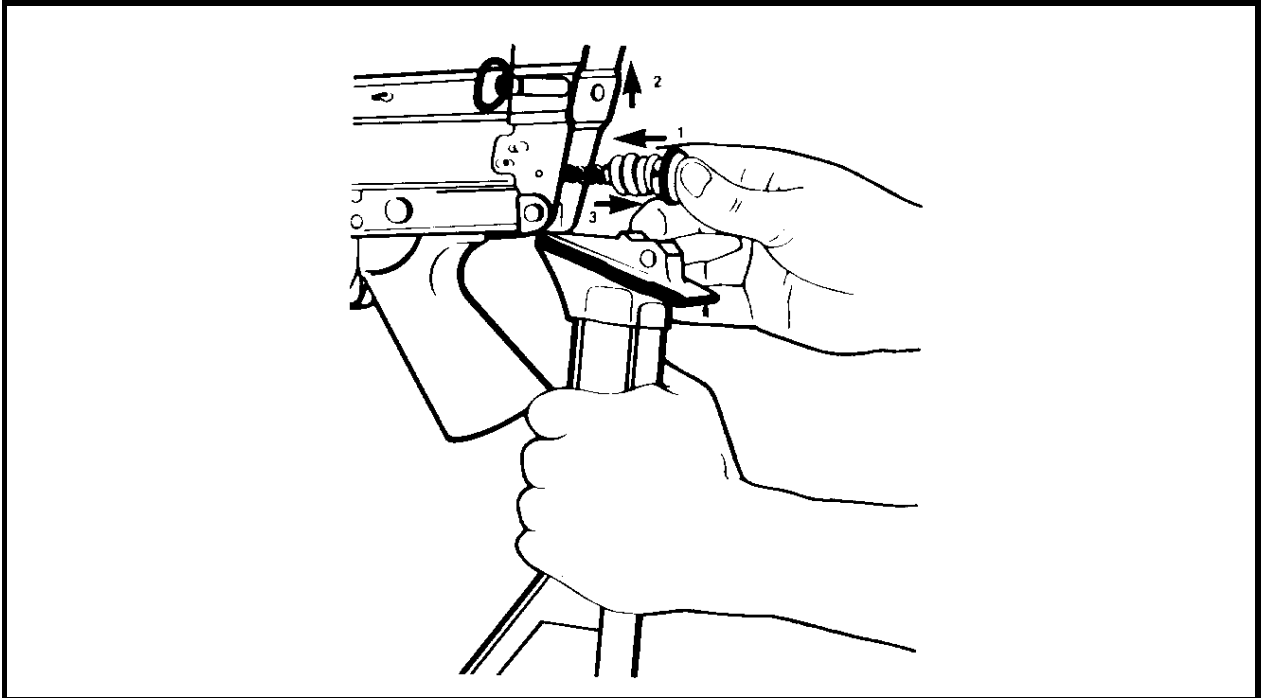
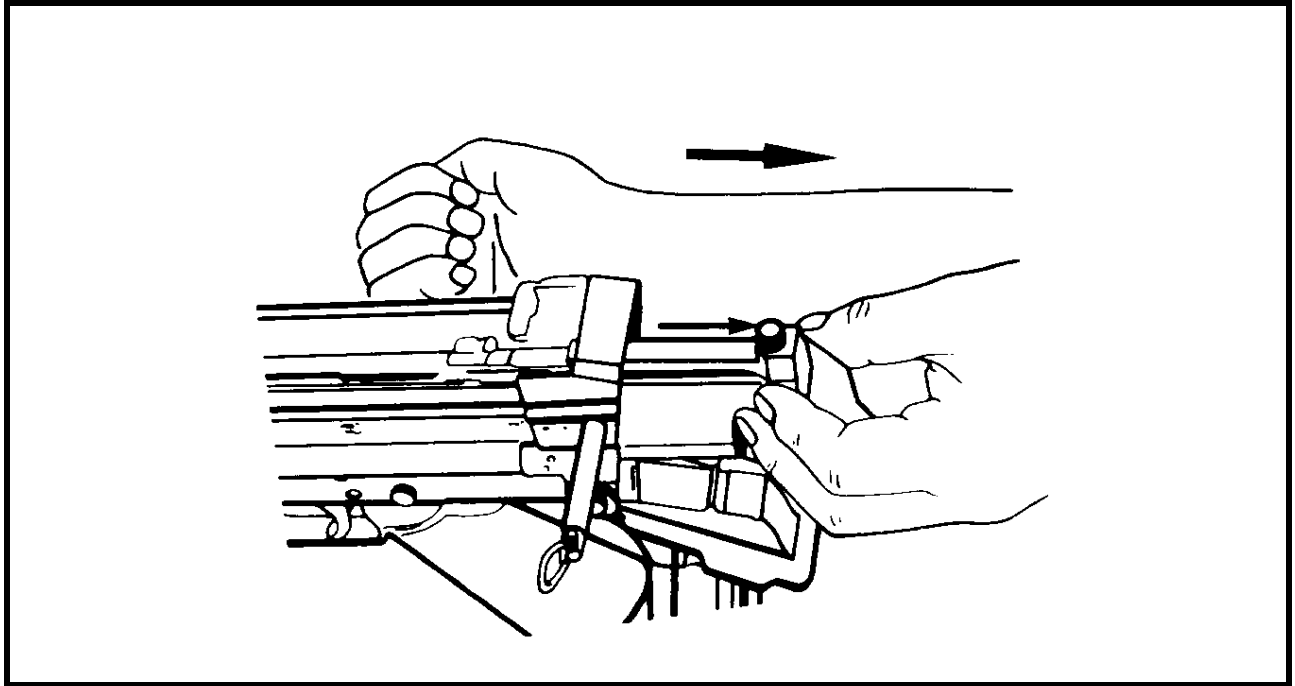
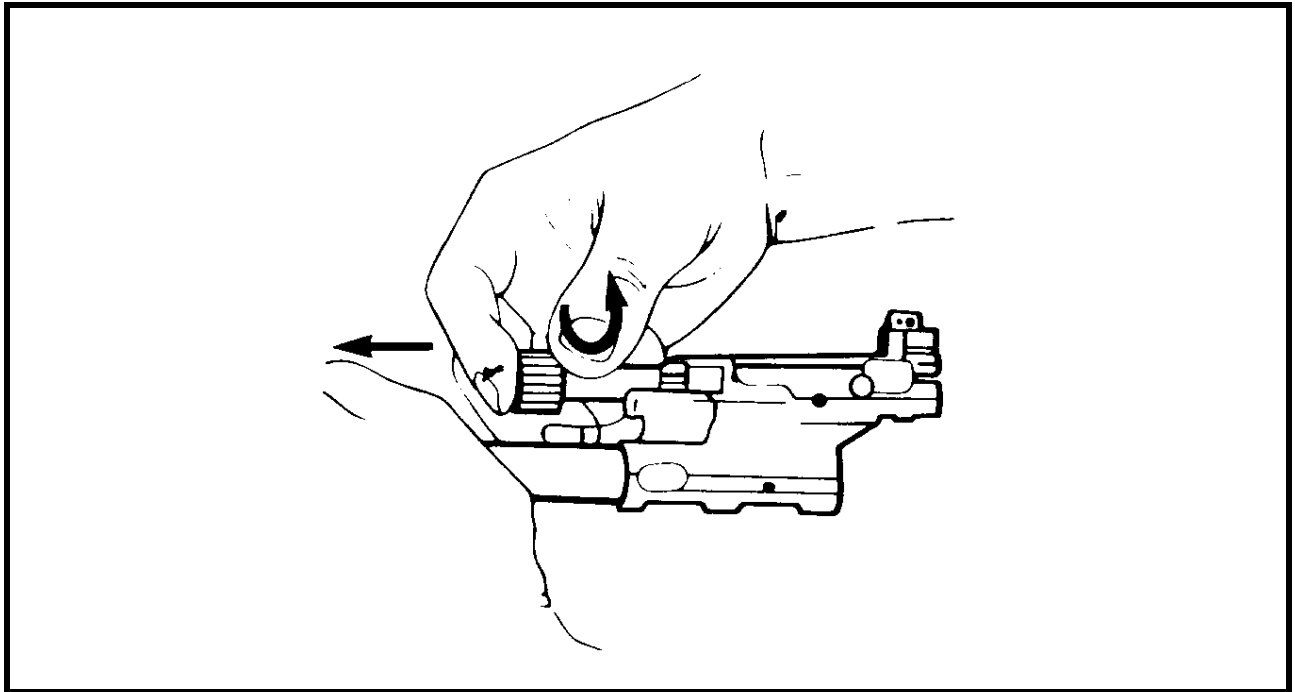
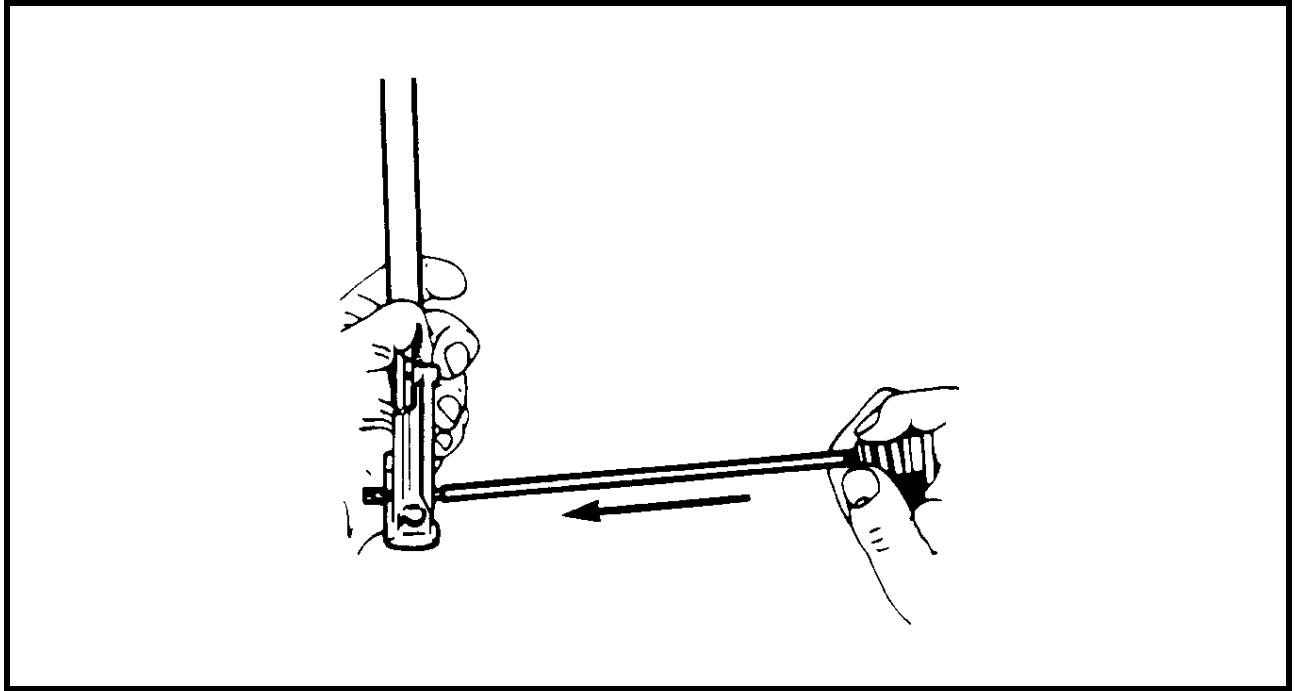

Figure 2-11 Freeing Return Spring Rod Assembly
Figure 2-12 Moving Parts Removal
Figure 2-13 Bolt Removal
Figure 2-14 Retaining Pin Release
- (2) While holding the LMG, simultaneously push forward and upward on the return spring rod assembly to free it from the receiver grooves (see Figure 2-11).
- (3) Withdraw the return spring rod assembly from the LMG and separate the return spring from the rod.
- (4) Open the feed cover and pull the cocking handle to the rear.
- (5) Slide the moving parts out of the LMG (see Figure 2-12). Push the cocking handle fully forward. Rotate the bolt to disengage the lug and separate it from the bolt carrier. When the bolt is removed, the firing pin spring is crimped. **DO NOT REMOVE IT** (see Figure 2-13). Separate the bolt carrier from the piston by pressing the retaining pin to the left (see Figure 2-14).